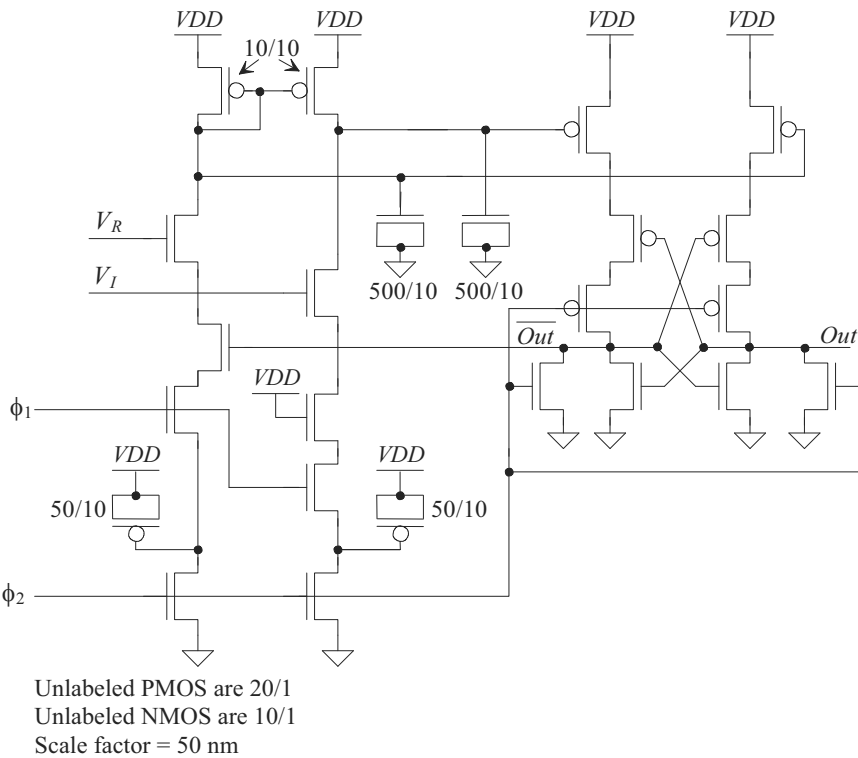

Figure 17.44 Simplifying the DSM sensing circuit, see Problem 17.13.
- 17.13** Simulate the operation of the circuit seen in Fig. 17.44. Do the comparator outputs make full logic transitions? Are glitches a concern? Why? How do the simulation results compare to the results seen in Fig. 17.37? Note that the outputs of the comparator go low each time ϕ_2 goes high so that $\overline{\text{Out}}$ can be used to clock a counter directly.